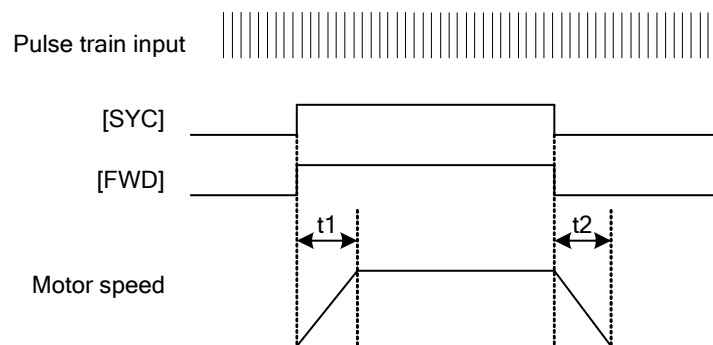

Figure 6.2.30
Times  $t_1$  (S) and  $t_2$  (S) in Figure 6.2.30 cannot be controlled by the inverter.